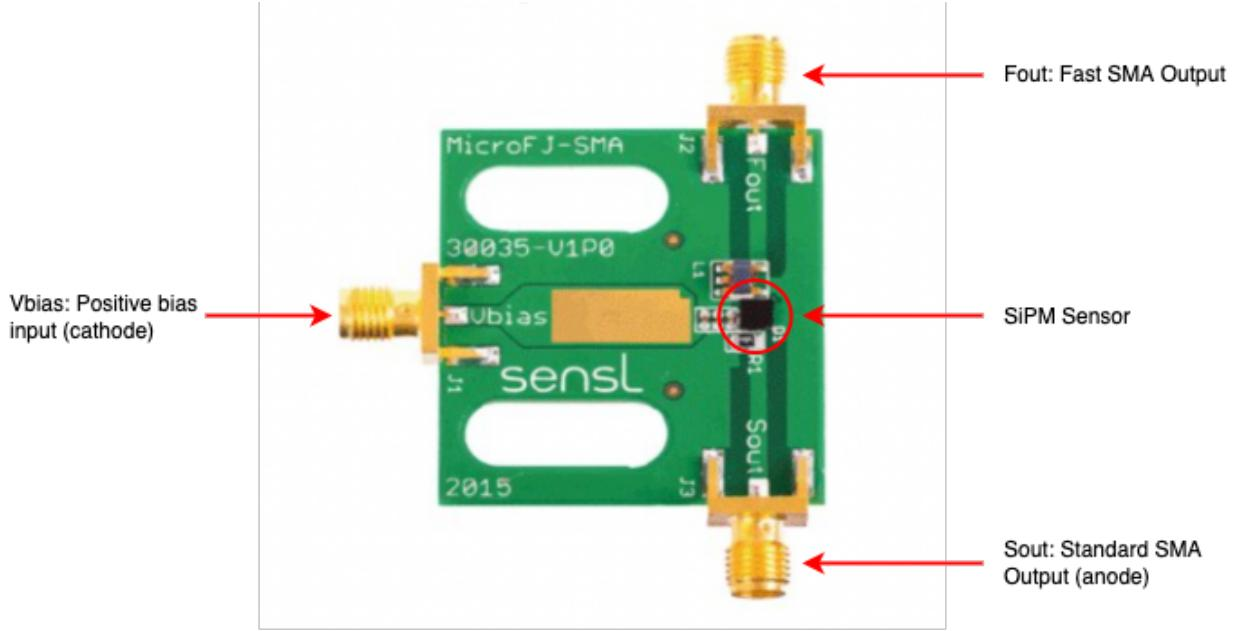

Figure 5: SiPM with labeled parts
- The *27V supply* is used to power each SiPM. This power supply may be operated between 25.2V-30.7V, where higher values yield an increased Photo Detection Efficiency (PDE), but also increased dark counts and noise as a consequence. The current draw is negligible, but as a sanity check, one can expect a few mA to be drawn. This voltage is applied to the port labeled Vbias in Figure 5.
Each pulse is output along either the standard or fast channels, which are labeled *Sout* and *Fout*, respectively as indicated in Figure 5. The difference between the two channel outputs is that the standard output takes much longer to settle to 0mV. Because of the application and need for precision, a fast output is recommended given that the signals will occupy less of the oscilloscope's time axis, which increases the precision at which timing measurements can be made.
The WLSF should be fed perpendicular to the SiPM sensor (refer to Figure 5). The SiPMs are placed in custom made stands which have a slot to place the WLSF in. While placing the SiPMs in the dark box, avoid bending the WLSF much to prevent damaging the fiber.